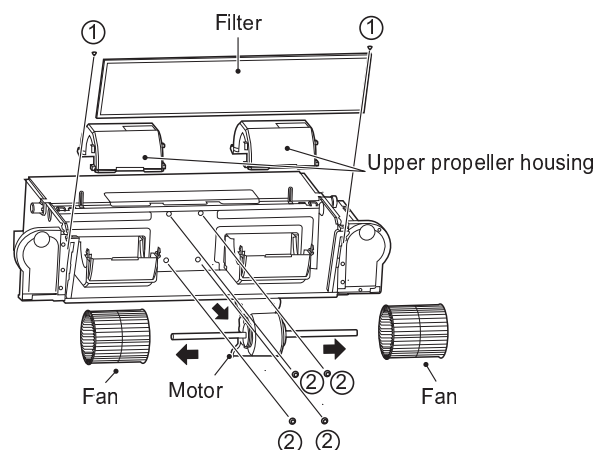

Figure 4-5 Removal of filter, upper volute and motor screws
- As shown in Figure 4-5, remove screws ①\*2 to take the filter out.